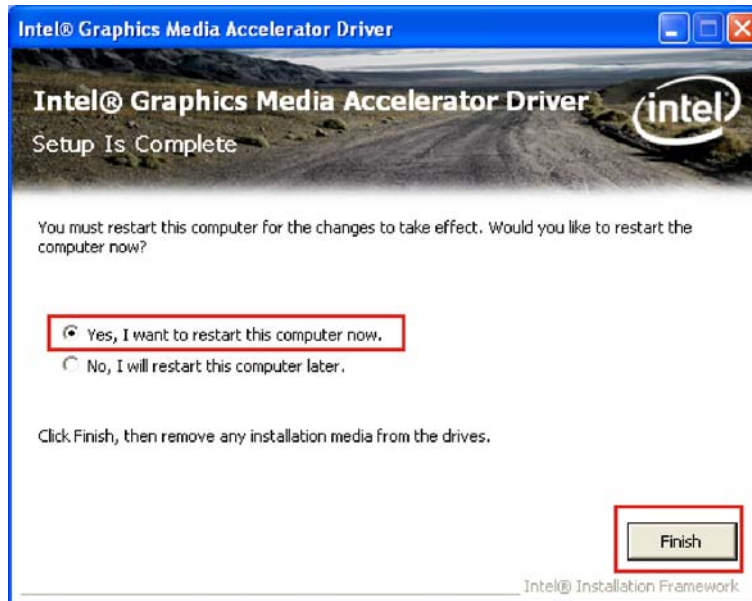

Figure 7-15: VGA Driver Installation Finish Screen
Step 35: Select “Yes, I want to restart the computer now” and click **FINISH**. See Figure 7-15.